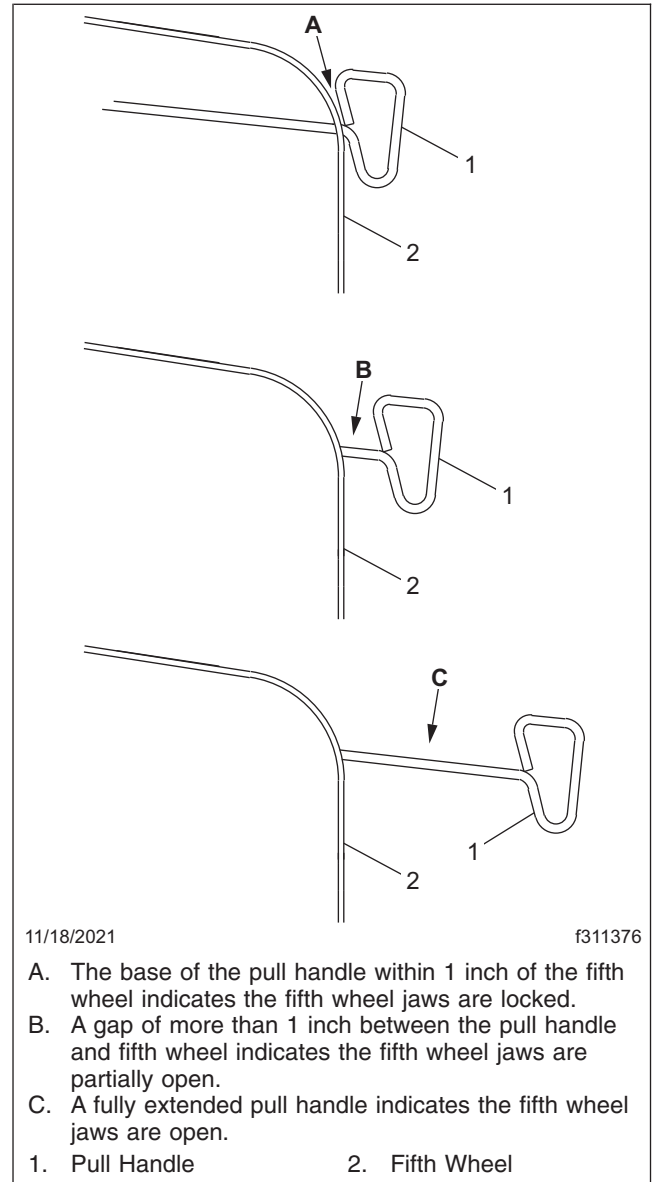
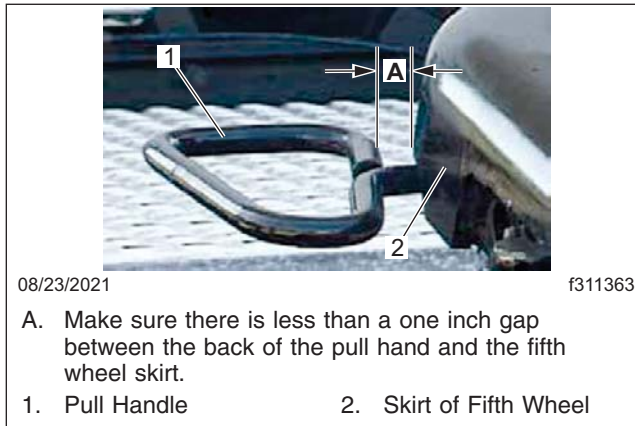

Fig. 17.3, Fontaine Fifth Wheel Lock Handle Positions
Fig. 17.8, Fontaine Fifth Wheel Handle Retracted
3. Ensure the fifth wheel jaws are fully open and the lock control handle is fully extended as shown in Fig. 17.3.
10.3 Check that the lock control handle is fully retracted as shown in Fig. 17.3; the gap between the back of the pull handle and the skirt of the fifth wheel should be *less than* one inch as shown in Fig. 17.8.